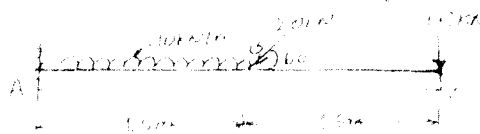

Fig Q4(b)
- b. Compute Reactions and Draw shear force and BMD in Fig Q4(b) (14 Marks)